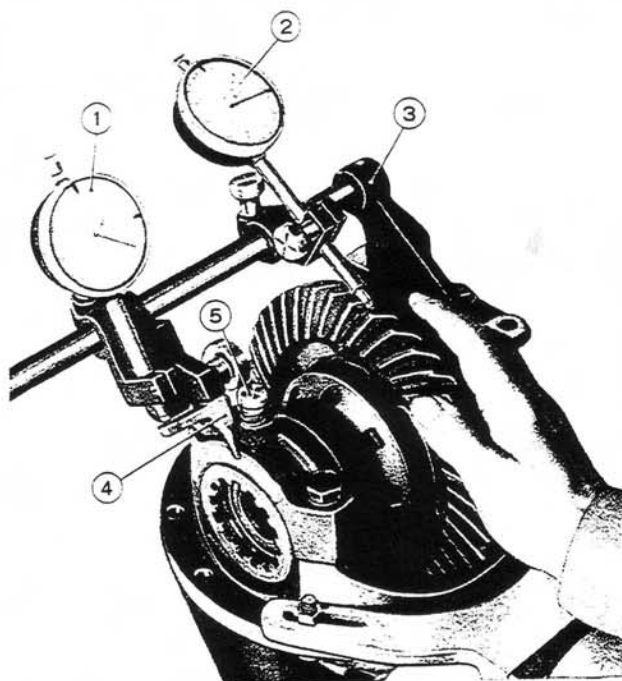

Fig. 81. - Checking backlash between pinion and ring gear.
- set to zero the pointer of dial indicator (2, fig. 81) whose plunger must contact the flank of a ring gear tooth, as previously adjusted;
- then move the ring gear the other way and check on indicator (2) the amount of lash, which should be from .0039" to .0059" (0.10 to 0.15 mm).